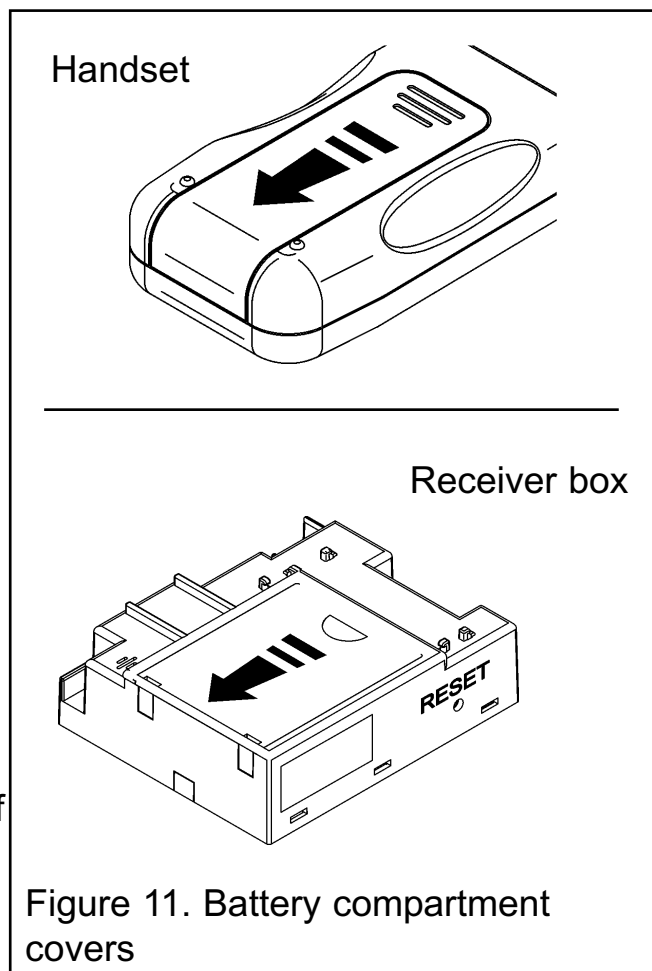

Figure 11. Battery compartment covers
The remote control handset is battery powered. There is a 9 Volt 'PP3' size battery supplied. Remove the rear battery compartment cover from the remote control handset. To do this push the tab towards the bottom of the handset and lift (See figure 11). Fit the battery in to the handset. Replace the cover.
The gas valve and receiver are battery powered. There are four 1.5 Volt 'AA' size batteries supplied. Remove the elastic band from around the bracket and receiver box. Slide the receiver box forward and clear of the bracket holding it in place. **Ensure that the wires do not snag on the bracket when removing the receiver box.** Slide the battery compartment cover clear (See figure 11) and fit the batteries. It is important that the +ve and -ve symbols on the battery match those of the illustration inside the battery holder. Replace the cover and receiver box. **It is important that the wires from the receiver box do not touch the underside of the burner tray.**
Press and hold the reset button on the receiver (See figure 11) until you hear two (2) acoustic signals. After the second, longer acoustic signal, release the reset button.